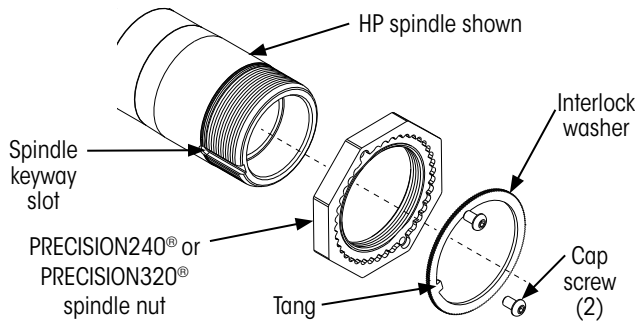
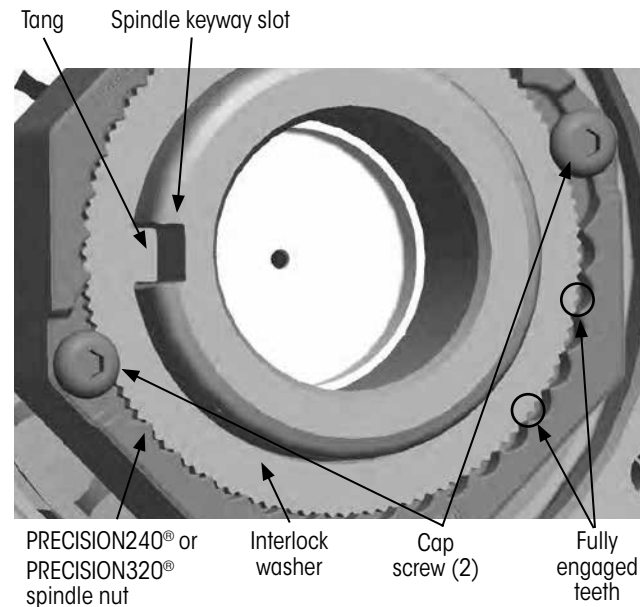

Figure 11: Precision spindle nut system components
Figure 13: Interlock washer and precision spindle nut fully engaged
1. Install precision spindle nut (Figure 11) onto the spindle, toothed side out, and hand-tighten.
9. **Install interlock washer** into the precision spindle nut with the tang aligned and inserted in the spindle keyway as shown in Figure 11 and Figure 13.
IMPORTANT: Teeth between the interlock washer and precision spindle nut must fully engaged as shown in Figure 13. **DO NOT ADJUST NUT TO ALIGN INTERLOCK WASHER**. Flip the washer over and reinstall.
10. **Install two button-head cap screws** (Figure 11) into the precision spindle nut until the heads of the screws just contact the face of the nut.
1. **Ensure** interlock washer is fully seated in PRECISION240® or PRECISION320® spindle nut (Figure 13).